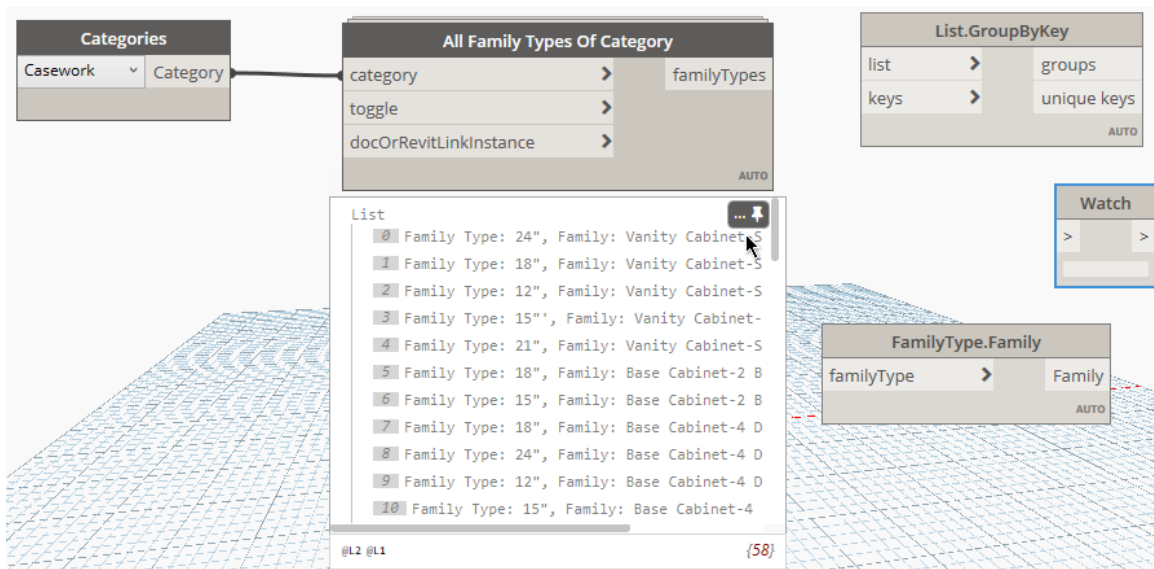

FIGURE 46
5. From the drop-down list on the **Categories** node, choose: **Casework** and then expand the preview bubble (see Figure 46).